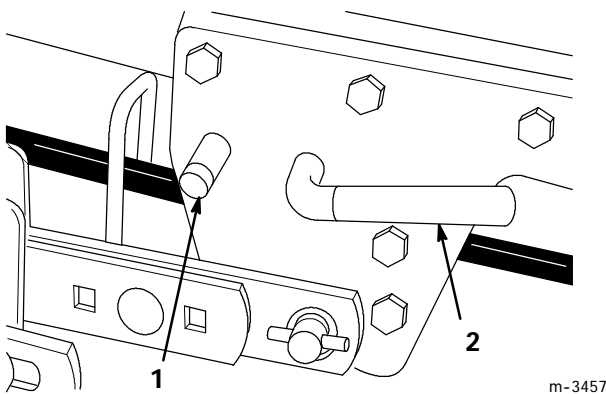

Figure 21
- Press the button of the mid Attach-A-Matic[™] and twist the lever clockwise to release the mower (Fig. 21).